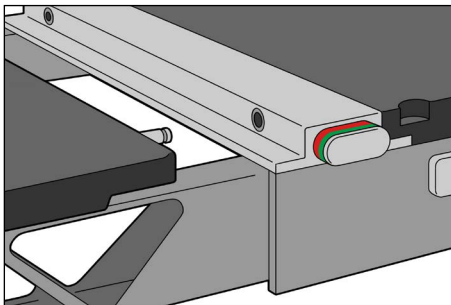

Fig. 1
1. Remove kVue Insert. (Fig.1).